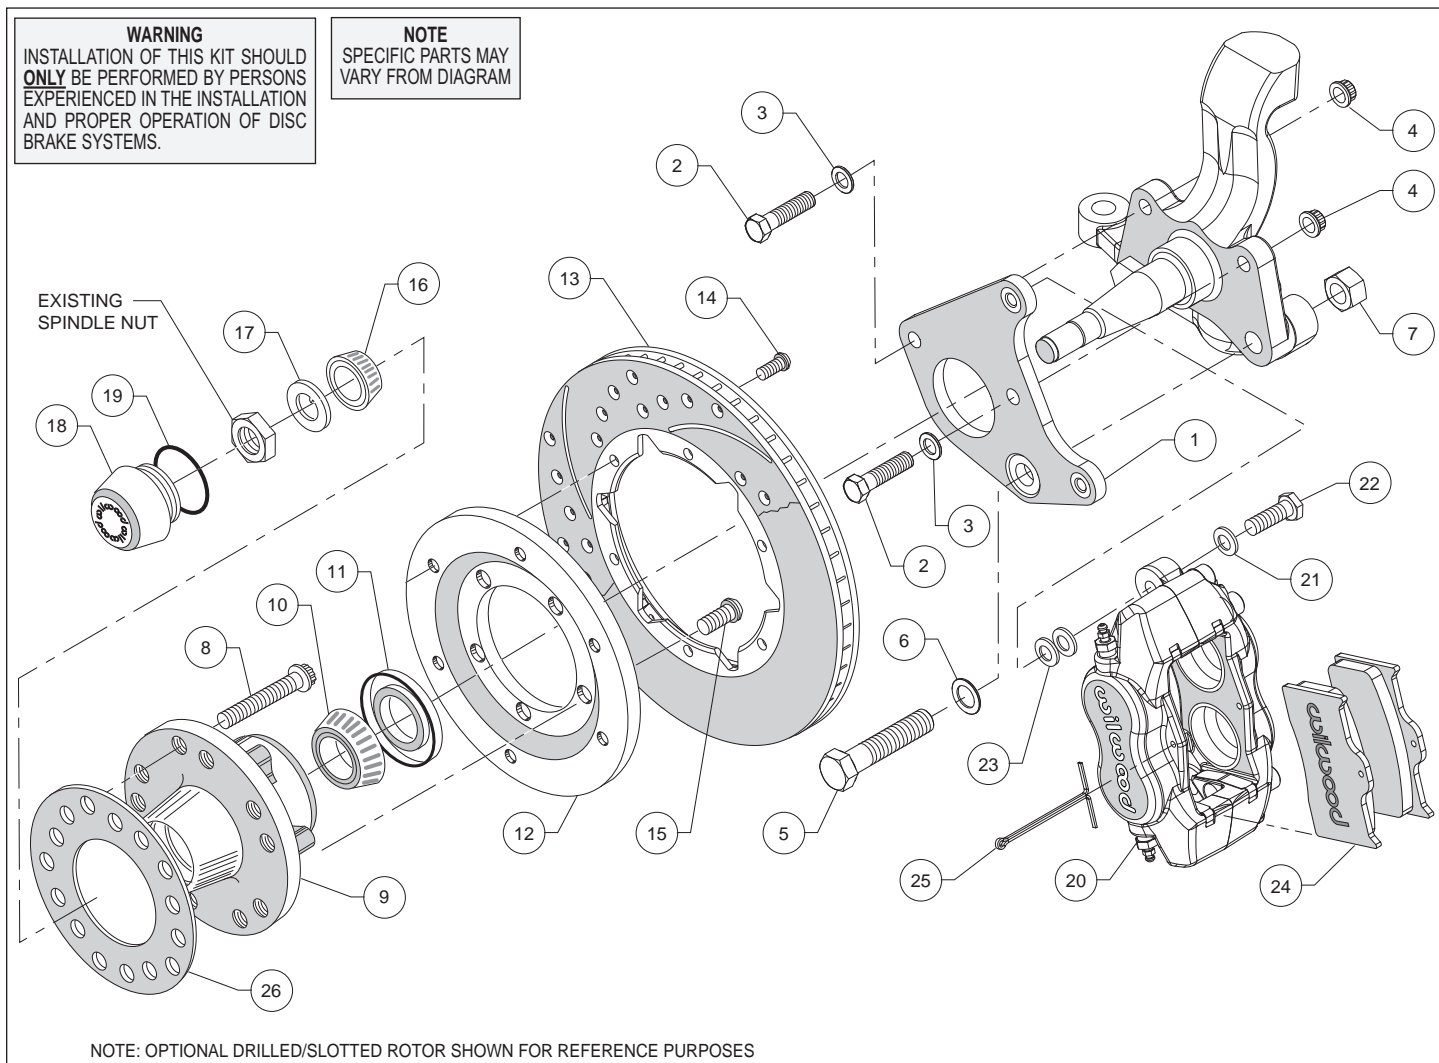
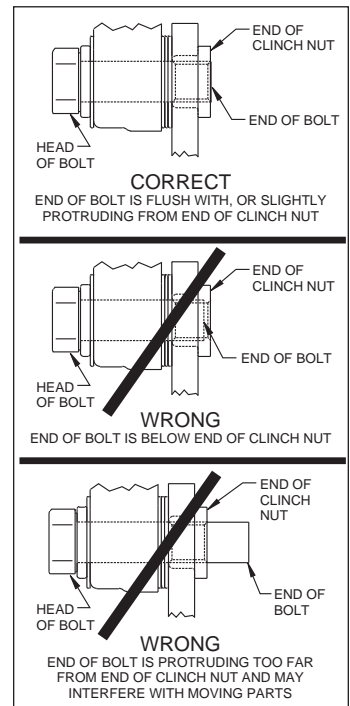

Figure 1. Typical Installation Configuration
Figure 3. Clinch Nut Engagement Diagram
Assembly Instructions (numbers in parenthesis refer to the parts list, on the preceding page and Figure 1): **CAUTION:** *All mounting bolts must fully engage clinch nuts.* Be sure to check that all bolts are either flush or protruding through flanged side of clinch nut after shimming, Figure 3.
- Align caliper mounting bracket (1) with the corresponding holes, to the face of the spindle. Attach using bolts (2/5), washers (3/6), and nuts (4/7), as shown in Figure 1 and Photo 1. Temporarily tighten the mounting bolts. Ensure that the flanged heads of the clinch nuts in the bracket are facing outboard, Photo 1. **NOTE:** *The bracket must fit squarely against the mounting points on the spindle.* Inspect for interference from casting irregularities, machining ridges, burrs, etc. Torque nuts (4) to 47 ft-lbs., and nut (7) to 140 ft-lbs.
- Pack the large inner bearing cone (10) with high temperature disc brake bearing grease (available from your local auto parts store) and install into the backside of the hub (9), Photo 3.
- Install the grease seal (11) by pressing into the backside of the hub (9), flush with the end of the hub, Photo 3.
- Orient the rotor (13) and the rotor adapter (12) as shown in Figure 1 and Photo 4. Attach the rotor to the adapter using bolts (14). Using
- Mount the adapter/rotor assembly (12/13) to the hub (9) using bolts (15), as shown in Figure 1 and Photo 5. Using an alternating sequence, apply red *Loctite*® 271 to the threads, and torque to 45 ft-lb.
- NOTE:** Please reference the caution statement at the beginning of the assembly instructions. Mount the caliper (20) onto the caliper mounting bracket (1) using bolts (22) and washers (21), as shown in Figure 1. Initially place two .035" thick shims (23) on each bolt between the caliper and the bracket, Photo 8. Temporarily tighten the mounting bolts and view the rotor (13) through the top opening of the caliper. The rotor should be centered in the caliper, Photo 9. If not, adjust by adding or subtracting shims between the bracket and the caliper. Always use the same amount of shims on each of the two mounting bolts. **NOTE:** The end of each bolt must be flush with or slightly protruding from the head of the clinch nut, as shown in Figure 3. If necessary place spare shims between washer (21) and caliper mounting ear to achieve the proper clinch nut engagement. Once the caliper alignment and clinch nut engagement are correct, remove the bolts one at a time, apply red *Loctite*® 271 to bolt threads, and torque to 40 ft-lb.